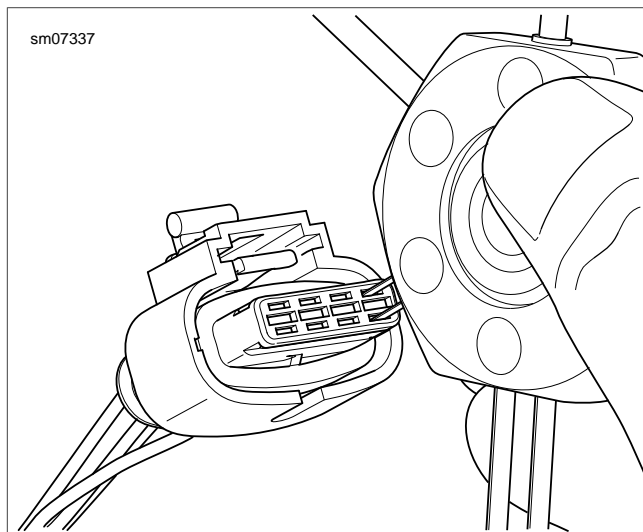

Figure A-4. Terminal Removal: Bosch Compact 1.1M Connector
1. See Figure A-4. Slide the locking bar off the terminal housing.